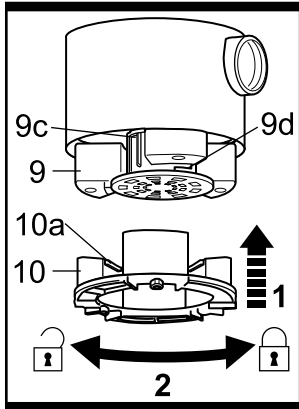

Fig. 4
2. Base extension. (See Fig. 4)
- (1). Remove the base extension (10) from the base plate (9) by rotating anticlockwise until the tongues (10a) are completely released from the grooves (9c).
- (2). Align the tongues (10a) of the base extension (10) to the slots (9d) of the base plate (9) . (See Fig. 4, 1).
- (3). Rotate the base extension clockwise until the tongues are firmly aligned with the slots . (See Fig. 4, 2).
- (4). After use, store the base extensions back into the compartments in reversed order.